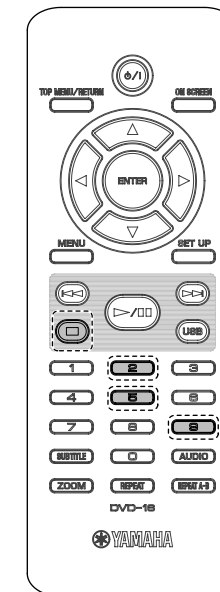

Fig. 2
2. Press the "2", "5" and "9" keys on the remote control in that order. (Fig. 2)